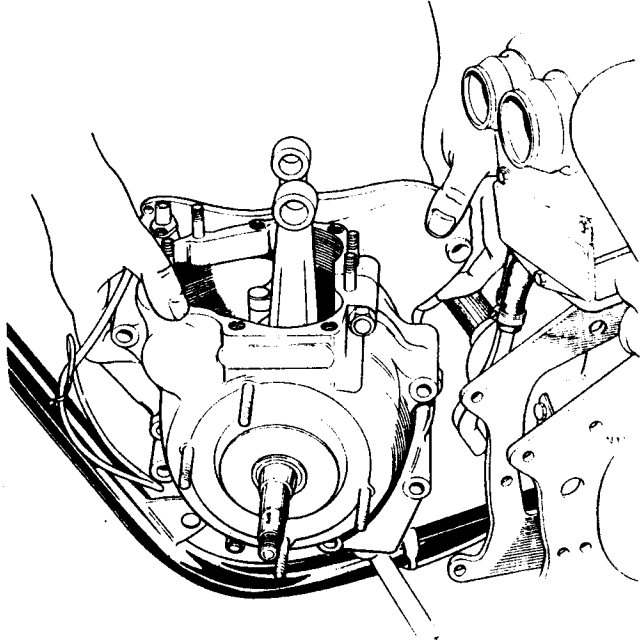

Fig. C18 Removal of the crankcase assembly from mounting plates
- 12 The crankcase assembly is now free to be removed from the mounting plates as shown in *Fig. C18*. Further dismantling of the engine can proceed more conveniently on the bench after removal.